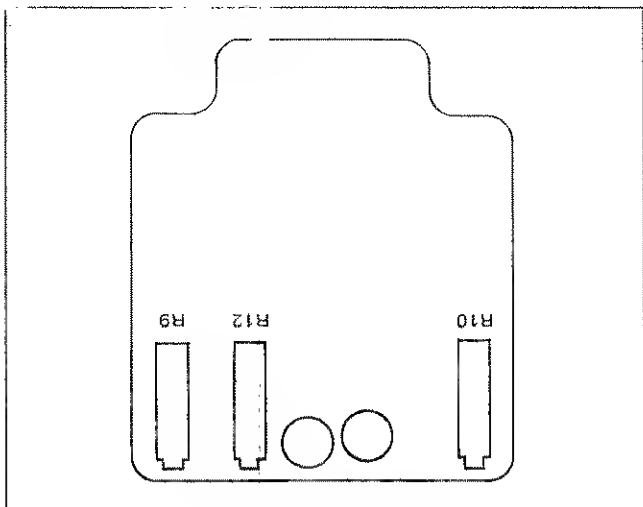

Figure 5.9 - 4-Wire Ratio Adjustment Locations
- e. Adjust R12 on 4-Wire Ratio board for a readout of -10.0000 (figure 5.9).